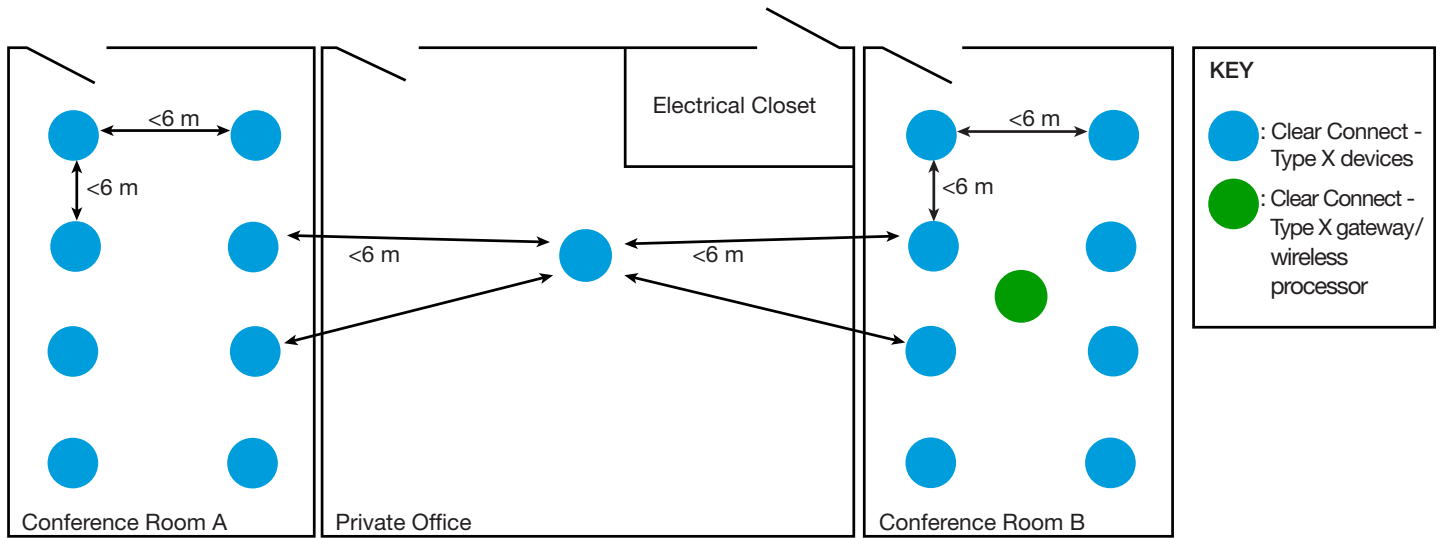

Figure 7 - Solution 3 Where additional devices are placed between the two groups of devices.
- Solution 3 (refer to Figure 7):** Place the gateway/wireless processor in one of the two conference rooms and place one or more additional Type X devices between the two conference rooms such that the additional device(s) is within 6 m of at least two other devices in each conference room.